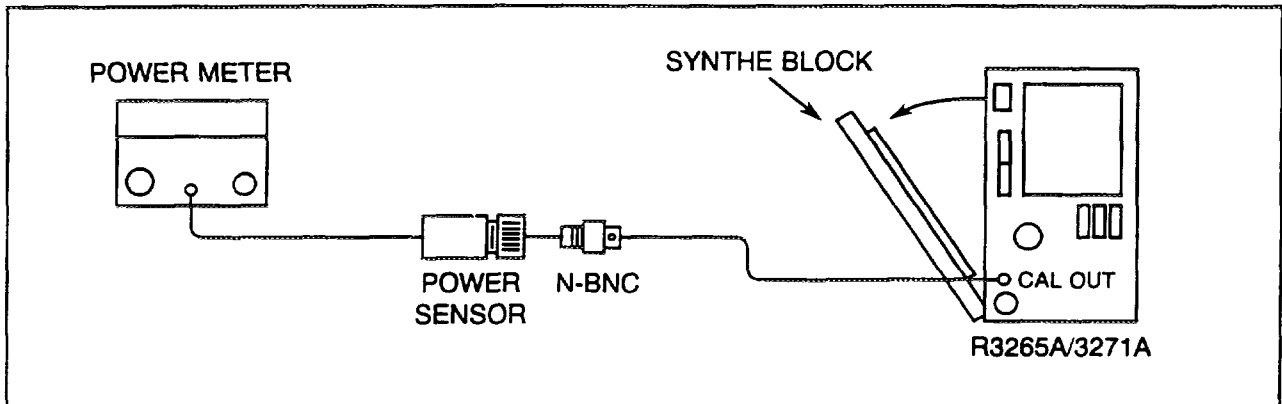

Figure 5-13 Calibrator Amplitude Adjustment Setup
- (1) Turn off the POWER switch of the R3265A/3271A, and disconnect the power cord. Remove the analyzer cover, place the analyzer as shown in Figure 5-13, and fold down the SYNTH BLOCK assembly.
- (2) Turn on the POWER switch of R3265A/3271A, and warm it up at least 30 minutes before starting adjustment.
- (3) Zero and calibrate the power meter in the Log Display mode. Enter the 25MHz CAL FACTOR signal of the power sensor to the power meter.
- (4) Connect the R3265A/3271A through an N-BNC adapter directly to the CALOUT jack on the R3265A/3271A front panel.
- (5) Adjust R151 of the SYNTH block for a -10.00 dBm reading on the power meter display.